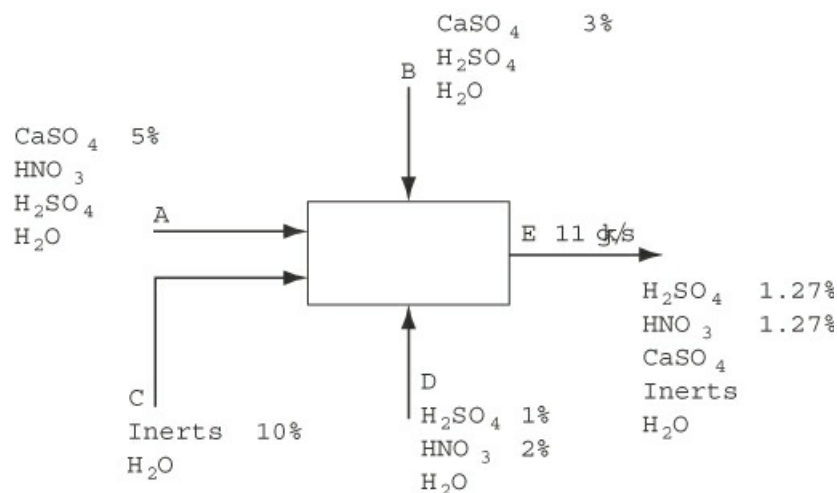

Figure P3.3.13
****3.3.13** Effluent from a fertilizer plant is processed by the system shown in Figure P3.3.13. How many additional concentration and stream flow measurements must be made to completely specify the problem (so that a unique solution exists)? Does only one unique set of specifications exist?